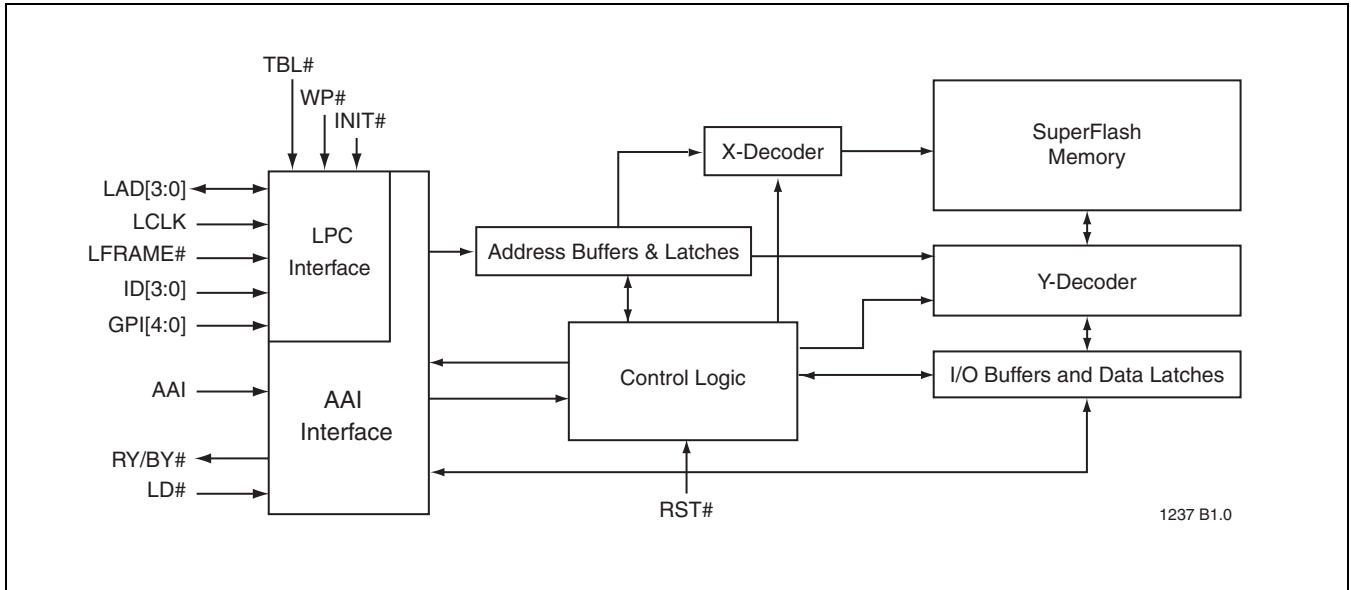

FIGURE 1: Functional Block Diagram
- FIGURE 1: Functional Block Diagram 7